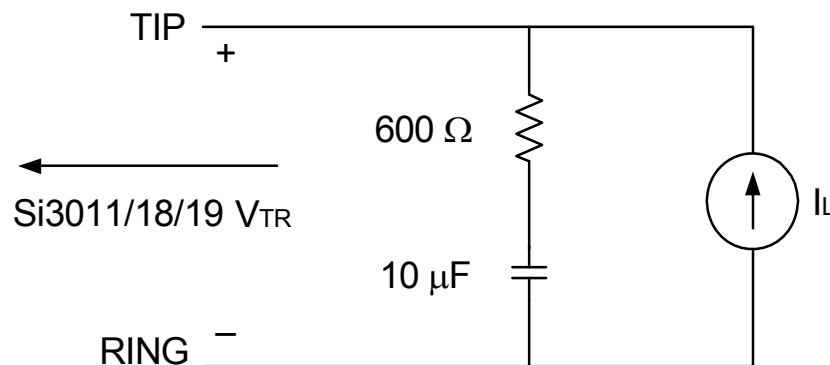

Figure 1. Test Circuit for Loop Characteristics
($V_D = 3.0$ to 3.6 V, $T_A = 0$ to 70 °C, see Figure 1 on page 6)
1. Measured at TIP and RING with 600Ω termination at 1 kHz, as shown in Figure 1 on page 6.
1. Measured at TIP and RING with 600 Ω termination at 1 kHz, as shown in Figure 1 on page 6.